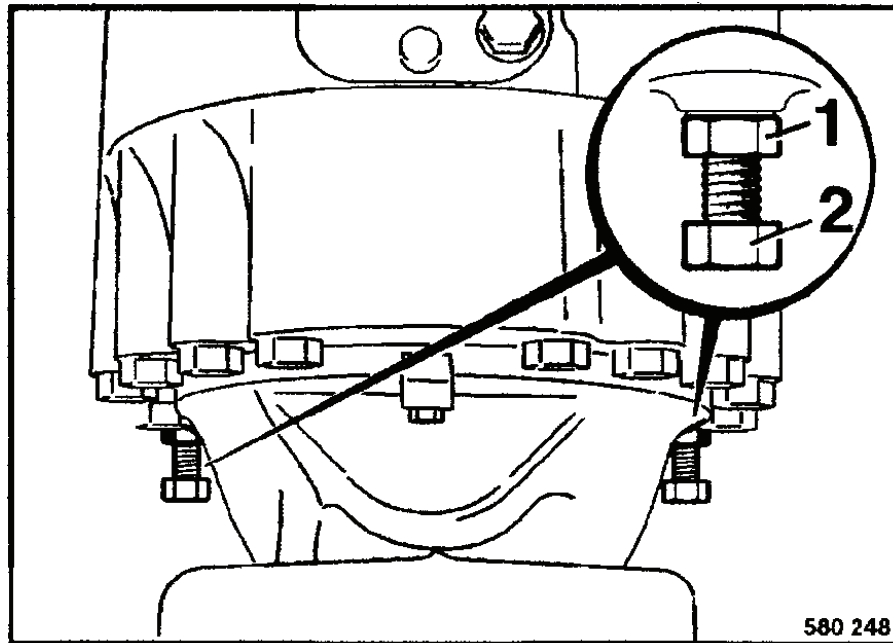

Fig. 14: Manual releasing of rear axle brakes
- Slacken the counter nut (Pos. 1, Fig. 14) and turn the counter nut approx. 8 mm back, until the brake is released.